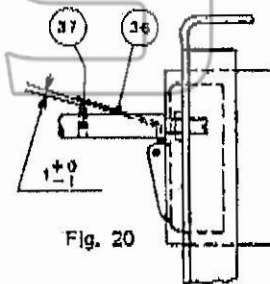

Fig. 20
A. Adjustment (Fig. 20). Place breaker in closed position with overcurrent and short circuit release bar latched. Deform strip (36) to obtain clearance between strip (36) and spring pin (37).